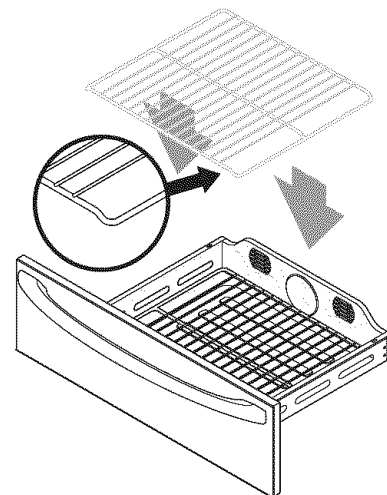

Fig. 1
- The warmer oven rack **must always be in place when warming.** Be sure that the rack is placed with the down turned sides into the drawer -Fig. 1. This will provide for some air space between the drawer and the food.